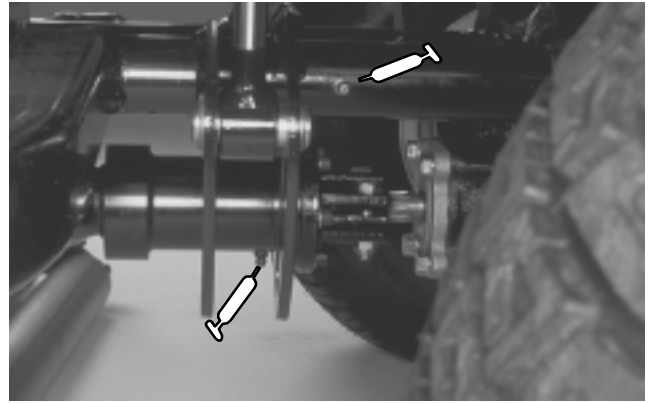
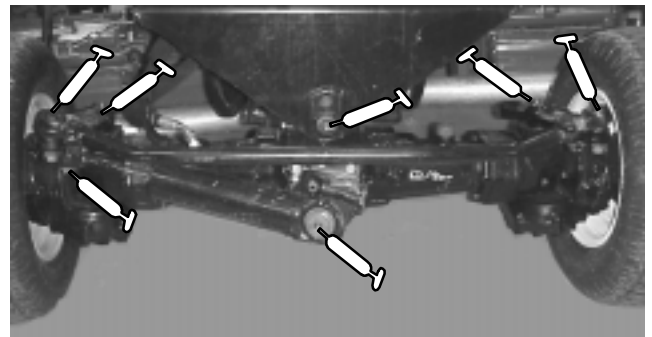
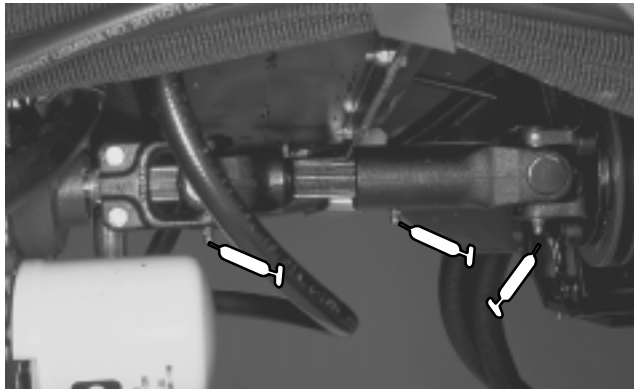
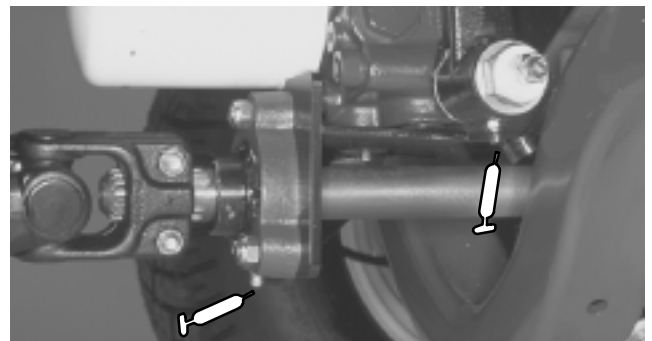

Figure 36
Figure 37
Figure 34
Figure 38
(Fig. 34 – 41)
1. The grease fitting locations and quantities are: Engine Drive shaft (3), (Fig. 34); Cutting unit carrier frame and pivot (2 ea.), (Fig. 35); Rear lift arm pivots (2), Drive shaft clutch (1) (Fig. 36); Rear axle tie rod (2), Steering cylinder ball joints (2), Axle steering pivots (2) Rear axle pivot (1) (Fig. 37); Traction control linkage at transmission (1), Drive shaft support bearing (1), Rear axle drive shaft (3) (Fig. 38); Brake pedal (1) (Fig. 39); Lift cylinders (5) (Fig. 40), front lift arm pivots (3) (Fig. 41) and fan drive pulley (Fig. 42).